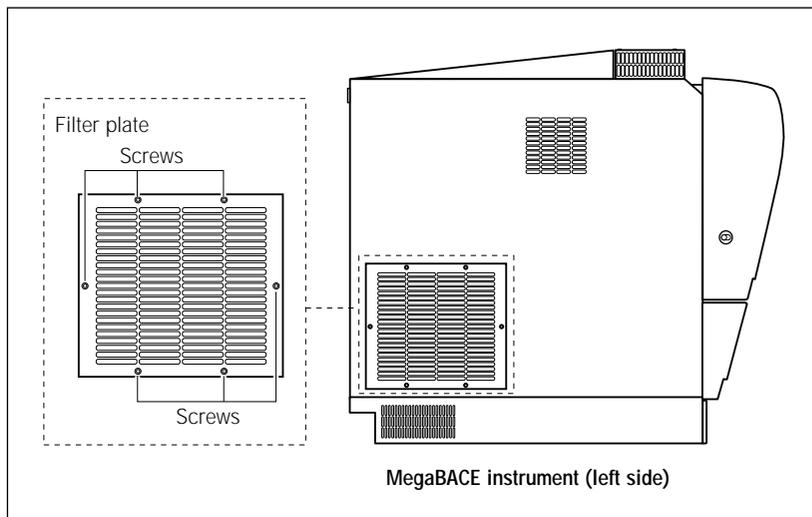

Figure 3-7. Air filter on the left side of the MegaBACE instrument.
2. On the left side of the MegaBACE instrument, use a Phillips screwdriver to turn the six screws on the filter plate one-quarter turn counterclockwise (figure 3-7) and remove the filter plate.